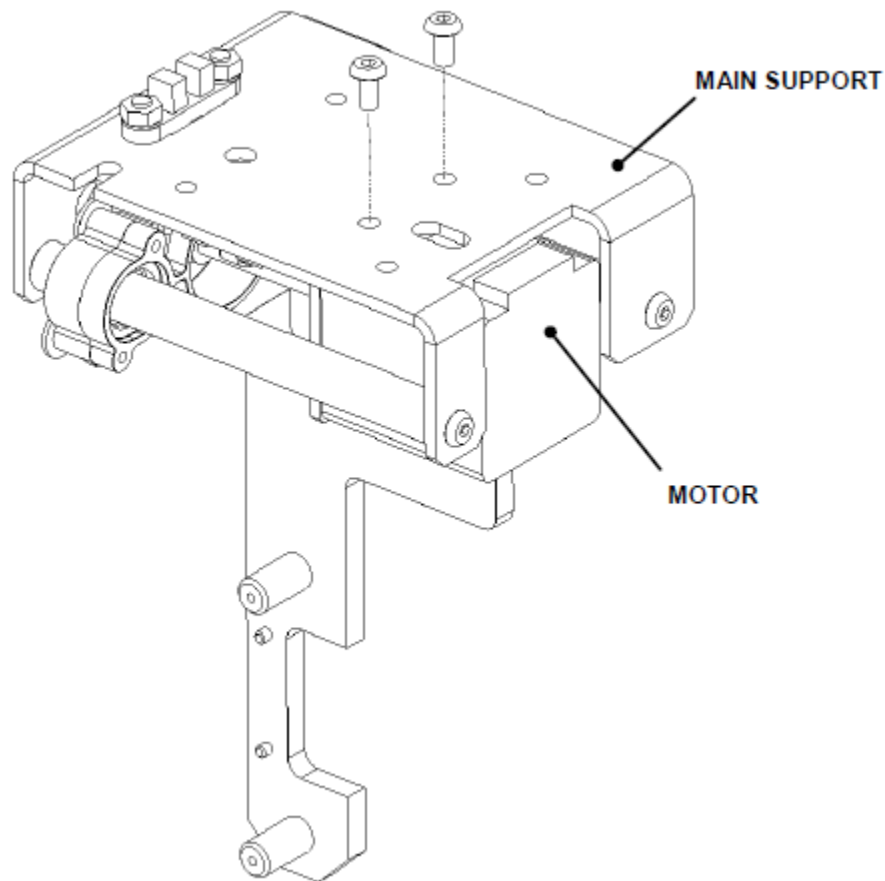

Figure AA-15: Mounting the Motor on the Main Support
4. Remove the Motor from the main support by removing the two screws as shown in Figure AA-15.